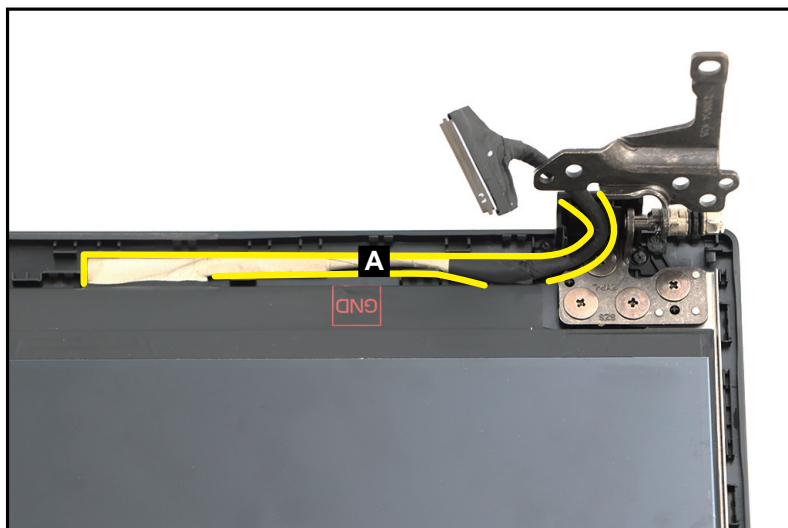

Figure 1-49. LCD Panel Removal
1. Unroute and release the eDP cable from the LCD hinge and the cable guides on the LCD cover as shown in Figure 1-49.